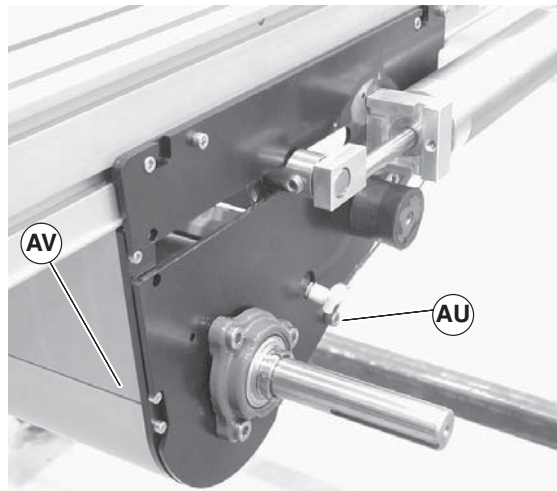
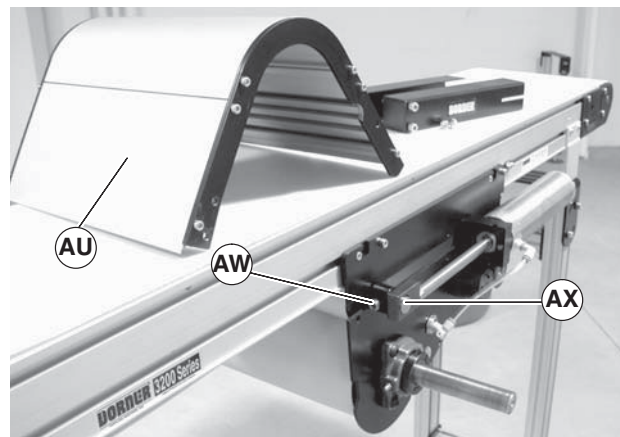
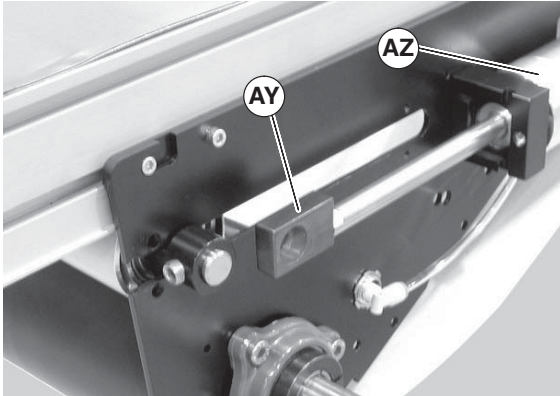

Figure 23
Figure 24
Figure 25
6. Temporarily support the tensioning roller guard (Figure 23, item AV). Remove screws (Figure 23, item AU) on both sides of center drive and remove tensioning roller guard (Figure 23, item AV) and (Figure 24, item AV).
7. Loosen tensioning roller set screws (Figure 24, item AW).
8. Push shaft (Figure 24, item AX) through block, slide block (Figure 25, item AY) towards air cylinder (AZ).